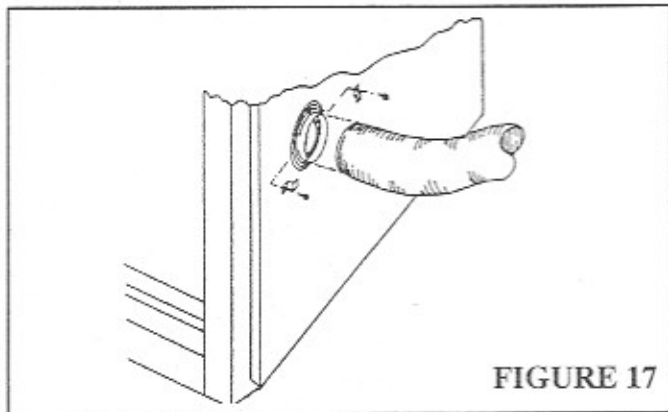

FIGURE 17
**STEP 8:** As shown in Figure 17, use the supplied two remaining sheet metal screws and the two clamp brackets to secure the duct to the air gate assembly.